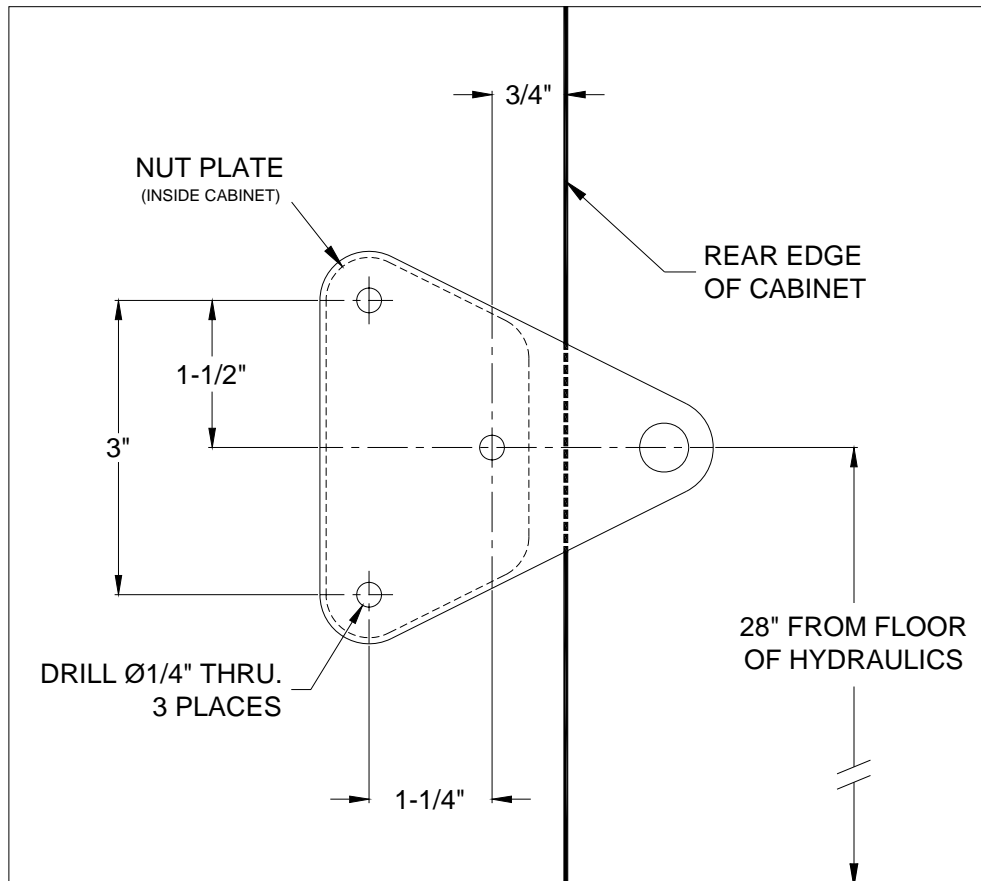

Figure 4 – Stability Bracket Hole Locations (not to scale)
2. Using the dimensions shown in Figure 4, drill three 1/4" holes in both sides of the 2008 cabinet.